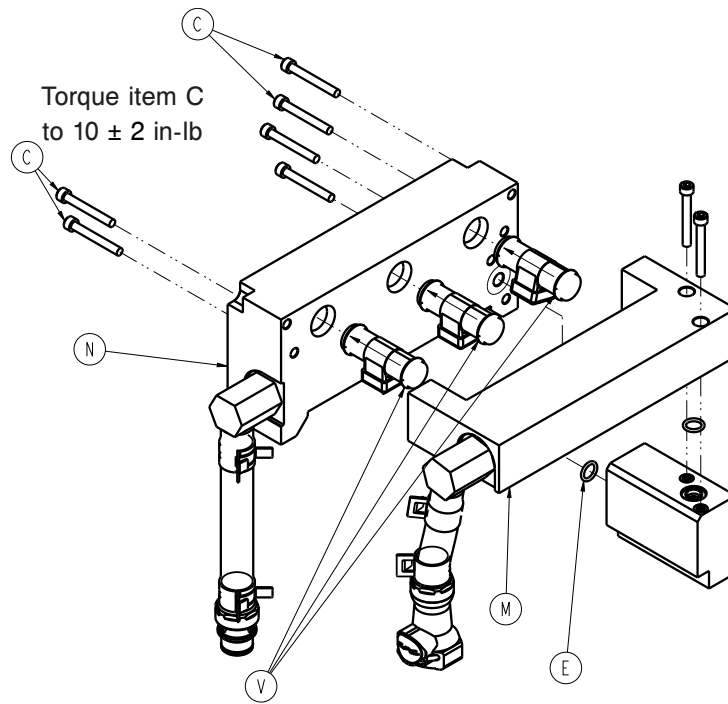

Figure 38 – Return manifold to supply manifold
5. Using a 5/32" hex wrench, remove the six screws (C) that secure the return manifold (N) to the supply manifold (M) (Figure 38). Save the screws.
Note - Verify that the O-ring (E) is seated between the return and supply manifolds (Figure 38).